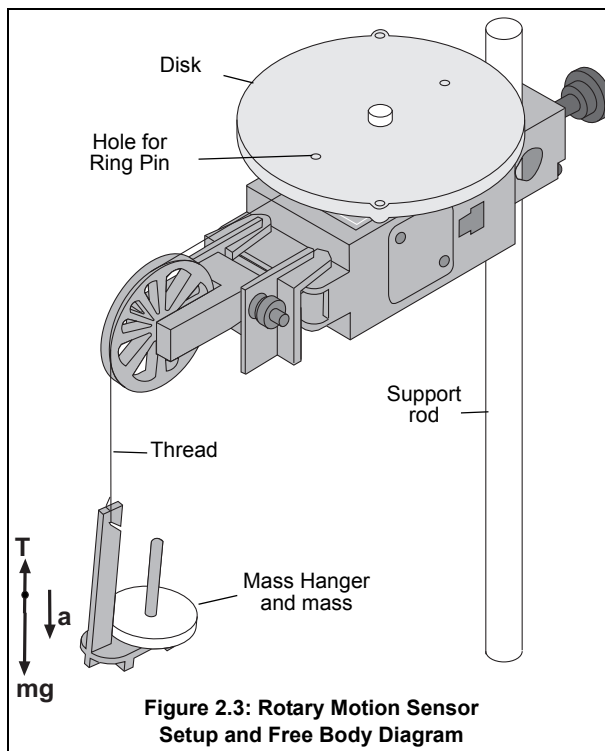

Figure 2.3: Rotary Motion Sensor Setup and Free Body Diagram
See Figure 2.3. Solving for the tension in the thread gives:
6. Place the disk directly on the 3-step Pulley as shown in Figure 2.3.